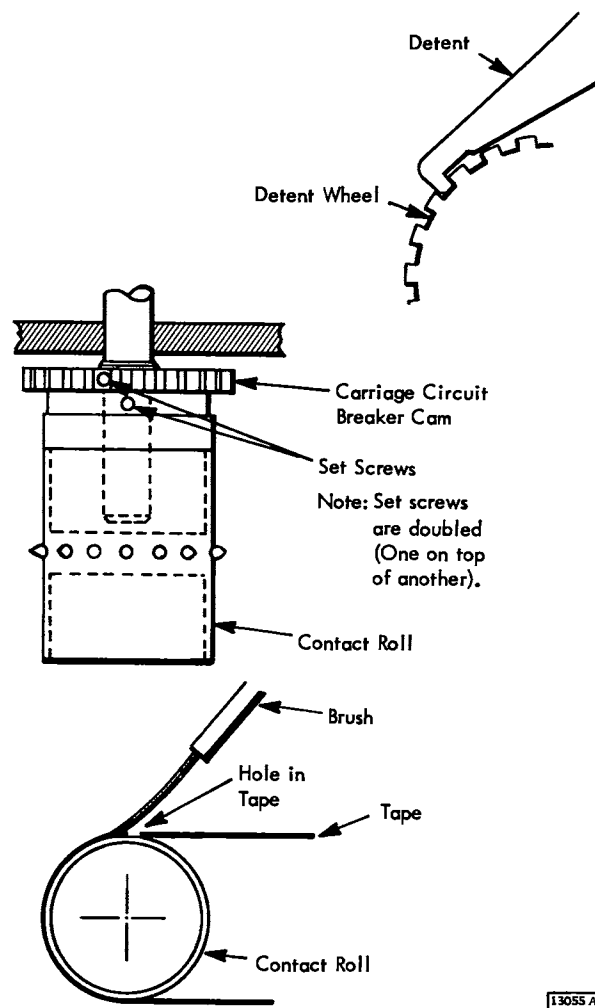

Figure 4-36. Contact Roll
NOTE: There is a locking screw on top of each contact roll set screw. Remove the top screw and loosen the bottom screw to adjust carriage contact roll (Figure 4-36).
- a. No brush or even a brush strand should make contact with contact roll (Figure 4-36).